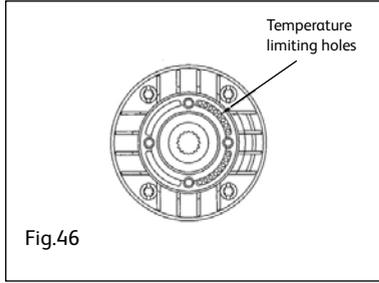

Fig.46
- Set the shower to the mid-blend position by turning the coloured ring until the semi circle of small holes radiate down from twelve o'clock to six o'clock. This operation will be made easier, if a temperature lever fixing screw is first inserted by two or three turns into one of the fixing points (Fig 46).